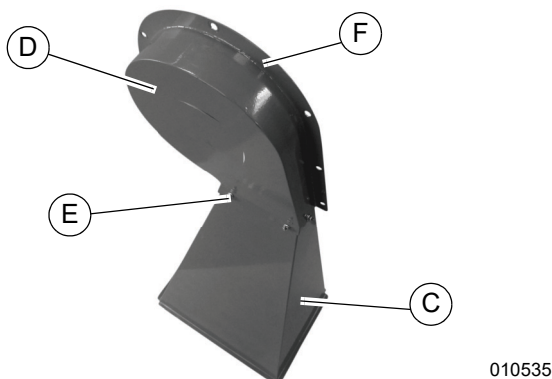

Figure 2-5. Securing Hammermill Housing
2. See Figure 2-5. Position the larger end of the shredder hopper (C) on a flat surface and set hammermill housing (D) over the shredder hopper.